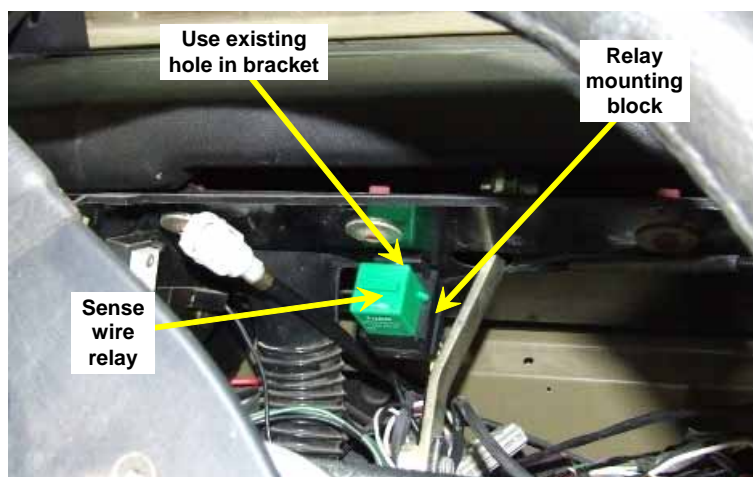

Figure 40 Sense Wire Relay Mounting Behind the Instrument Panel
- (1) Working from behind the instrument cluster, remove the relay in the sense wire harness (Table 1, Item 66) from its base block. Use the existing RH self tapping screw for the air demister pipe (may be hard to see, black on black), to mount the block on the existing hole in the bracket as shown in Figure 40, and then refit the relay into the base block.